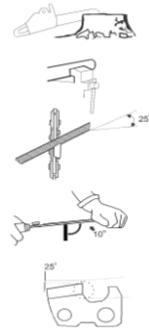

Fig. 33
- Place the pile on the teeth of the chain and push straight ahead. Hold the pile in the position illustrated. (Fig. 33)